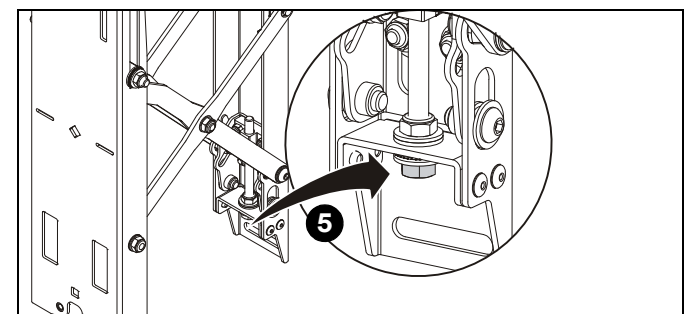

Figure 13
5. Adjust plumb of mount by turning the adjustment nut on the FCAXV1U. (See Figure 13)